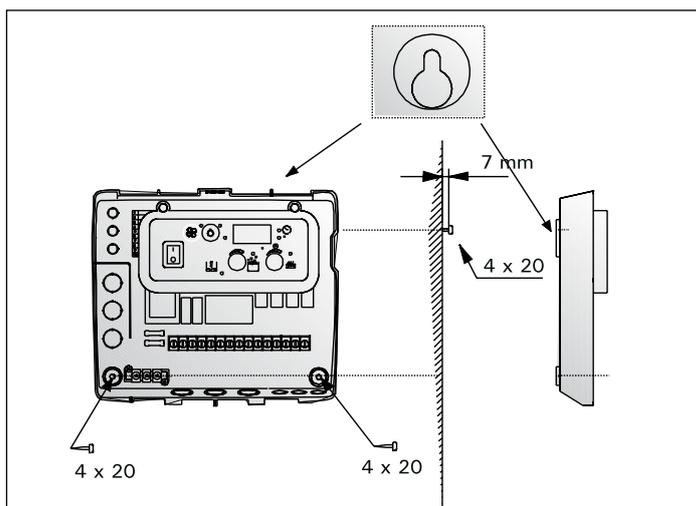

Figure 4. Fixing the device to the wall
There are holes for three (3) screws on the underside of the control unit, allowing the device to be fixed to the wall. See figure 4.